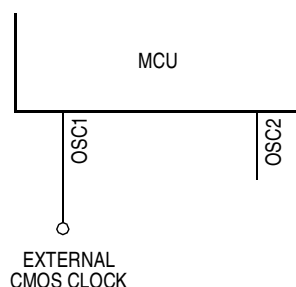

Figure 1-8. External Clock Connections
3. Resistor/capacitor (RC) oscillator (Refer to Appendix A. MC68HRC705J1A and Appendix C. MC68HSR705J1A.)
4. External clock signal (See Figure 1-8.)
An external clock from another complementary metal-oxide semiconductor (CMOS)-compatible device can be connected to the OSC1 input, with the OSC2 input not connected, as shown in Figure 1-8. This configuration is possible regardless of whether the crystal/ceramic resonator or the RC oscillator is enabled.